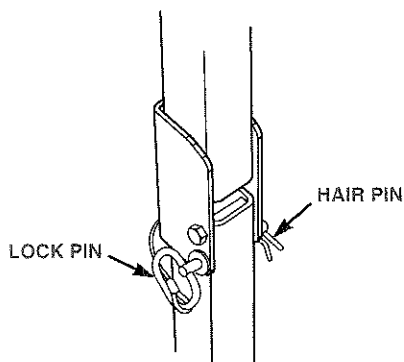

Figure 2-1 ROPS Lock Pin
1. To lower the roll bar, remove the hairpin cotter pins and remove the (2) two lock pins. See Figure 2-1.
4. Install the (2) two lock pins through the hole, secure with the (2) two hairpin cotter pins. See Figure 2-1.